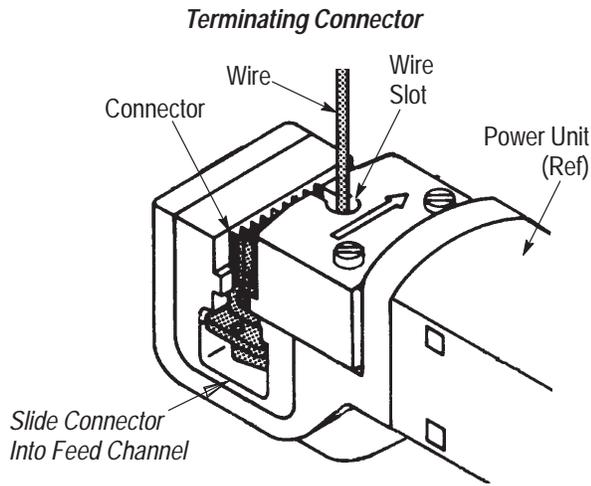

Figure 2
Make sure that the connector matches the wire size to be terminated, then refer to Figure 2, and proceed as follows:
- Replaced Figures 2 and 3 with reference connector part numbers